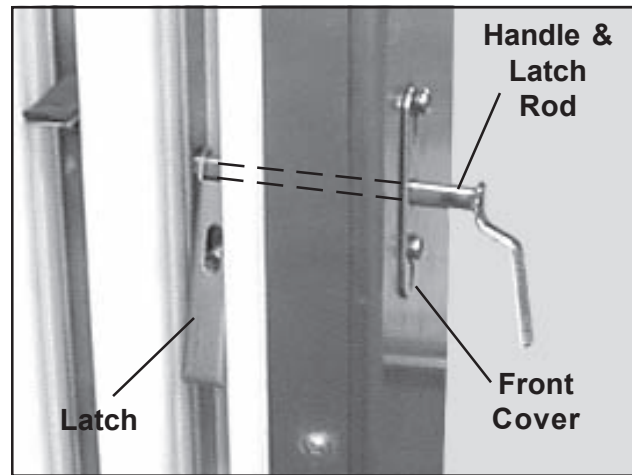

Figure 49. Handle & Latch Rod
3. Insert the handle and latch rod (**A**) through the center hole of the front cover until it enters the channel for the front door (Figure 49).